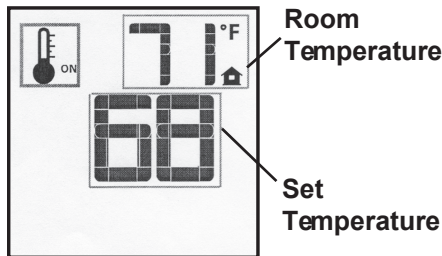

Figure 32 - Remote Control Displaying Room Temperature and Set Temperature
1. To activate this function, press the **THERMOSTAT** key. The display on the handset will change to show that the room thermostat is ON and the set temperature is now displayed (see Figure 32).
2. Adjust the set temperature (shown on display) by pressing the up or down arrow keys until the desired set temperature is displayed (see Figure 32).